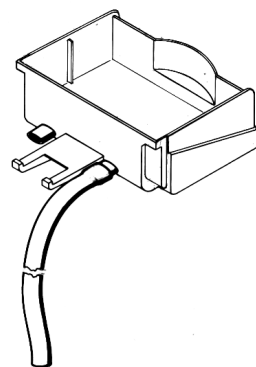

figure 1
- 8 - Each drip tray has two diaphragm plugs: if a continuous drain is needed, perforate one of the drain plugs and connect it to a flexible drain line (see figure 1).